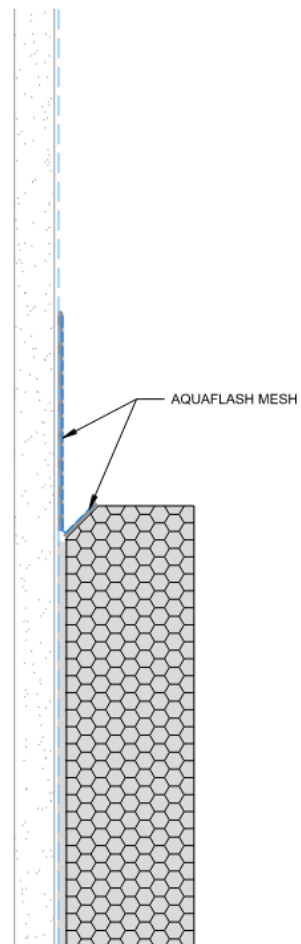

Figure 3
4. Apply the AquaFlash mesh to the AquaFlash liquid on the wall, pushing the mesh into the space created by the beveled edge of the starter board, and onto the AquaFlash liquid on the beveled edge creating a trough. (See Figure 3)